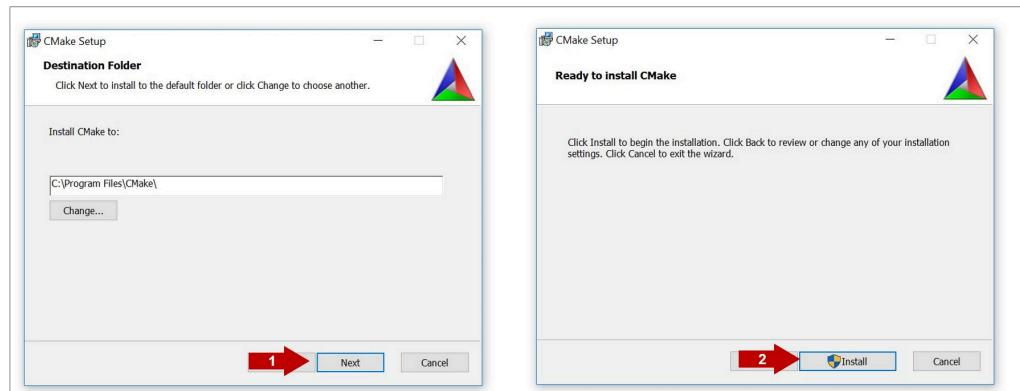

Figure 41. Install CMake
7. Select a destination folder, (1) click **Next** and then (2) click **Install** as shown in Figure 41: